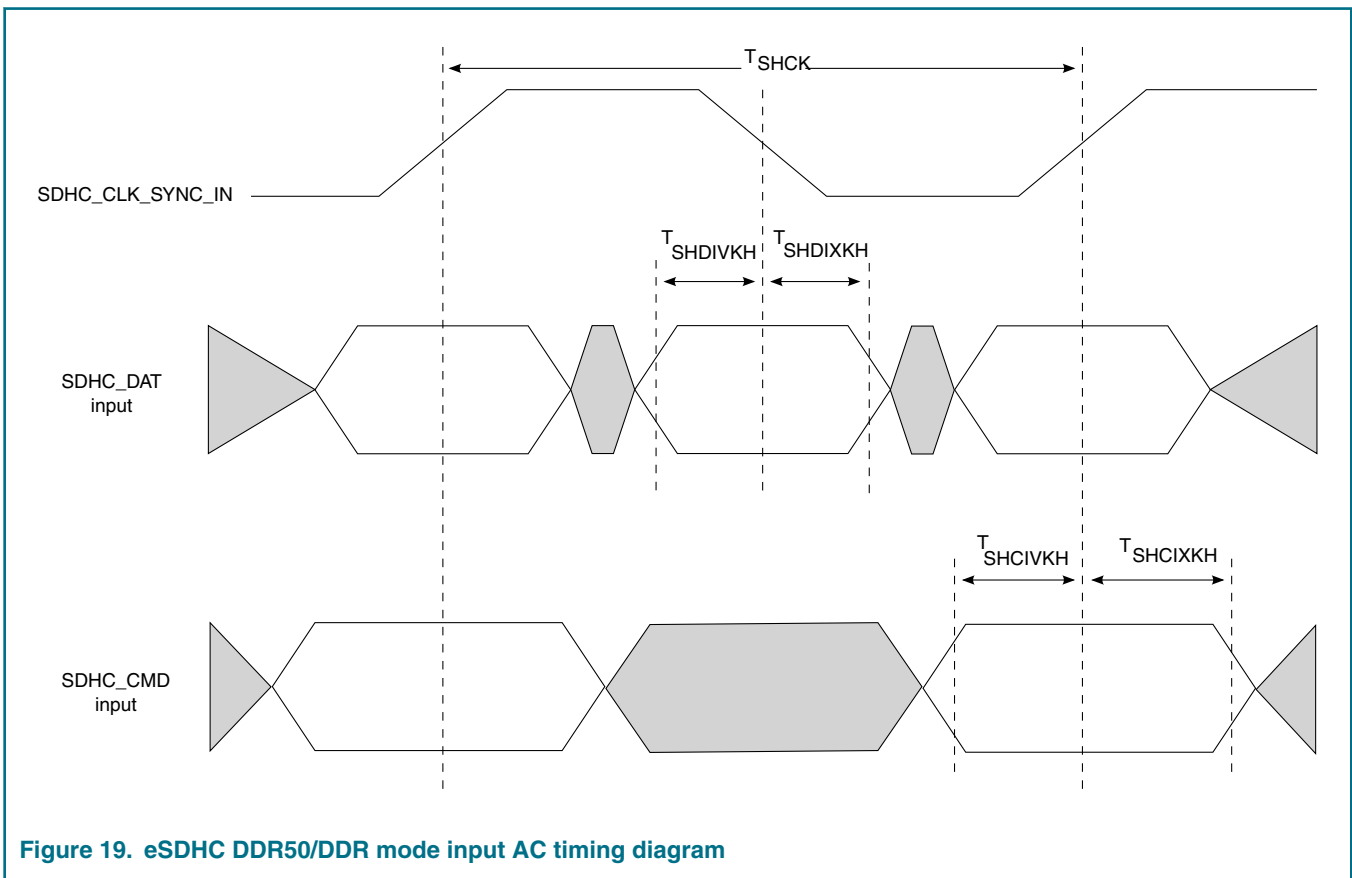
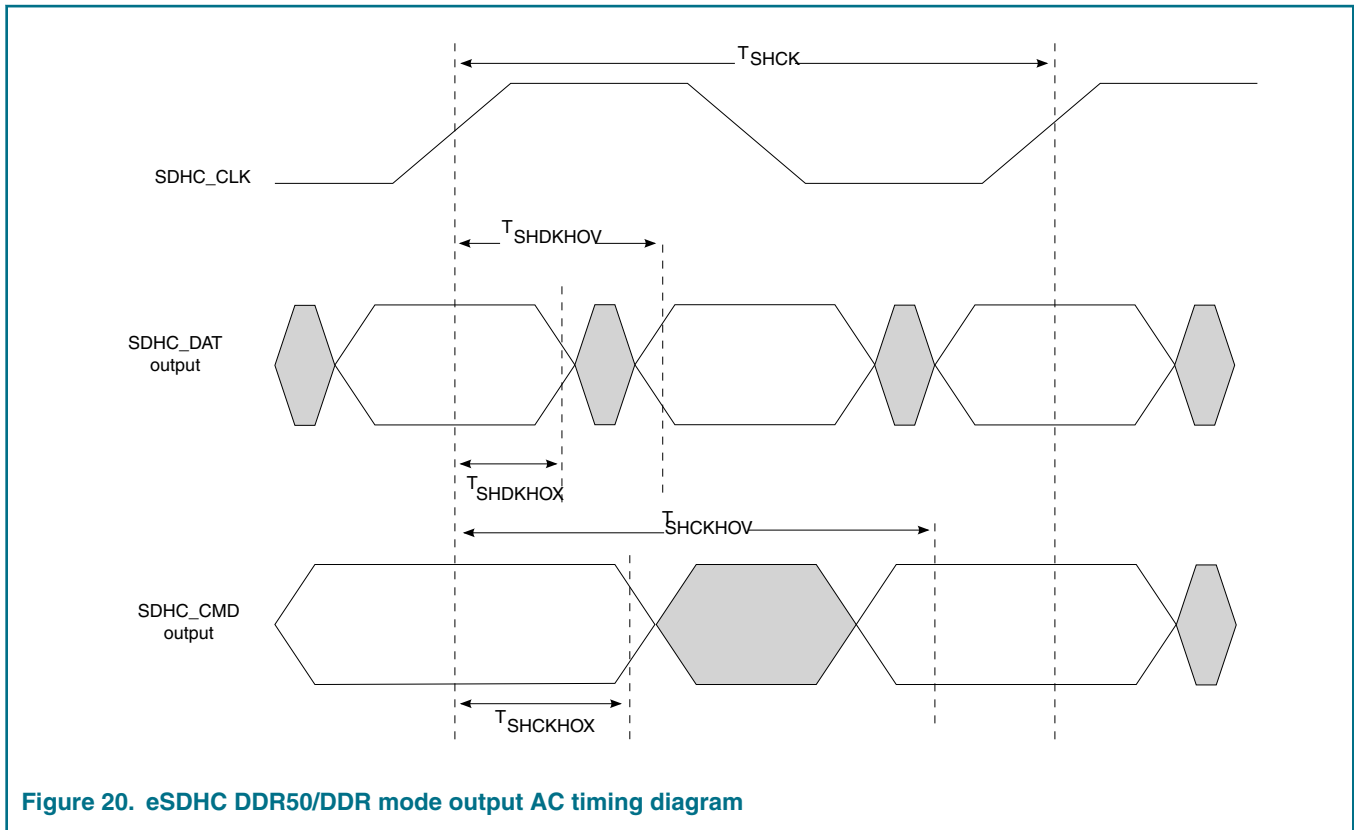

Figure 19. eSDHC DDR50/DDR mode input AC timing diagram
Figure 20. eSDHC DDR50/DDR mode output AC timing diagram
1. $C_{CARD} \leq 10\text{pF}$, (1 card). 2. $C_L = C_{BUS} + C_{HOST} + C_{CARD} \leq 20\text{ pF}$ for MMC, $\leq 25\text{pF}$ for Input Data of DDR50, $\leq 30\text{pF}$ for Input CMD of DDR50. 3. The symbols used for timing specifications herein follow the pattern of $t_{(\text{first two letters of functional block})(\text{signal})(\text{state}) (\text{reference})(\text{state})}$ for inputs and $t_{(\text{first two letters of functional block})(\text{reference})(\text{state})(\text{signal})(\text{state})}$ for outputs. For example, t_{SHKHOK} symbolizes eSDHC highspeed mode device timing (SH) clock reference (K) going to the high (H) state, with respect to the output (O) reaching the invalid state (X) or output hold time. Note that in general, the clock reference symbol is based on five letters representing the clock of a particular functional. For rise and fall times, the latter convention is used with the appropriate letter: R (R for rise) or F (F for fall). 4. See Figure 19 . on page 92. 5. See Figure 20 . on page 93. 6. The AC timing specifications are based on the recommended operating conditions with EVDD /OVDD =1.8V and EVDD=3.3V, see Recommended Operating Conditions